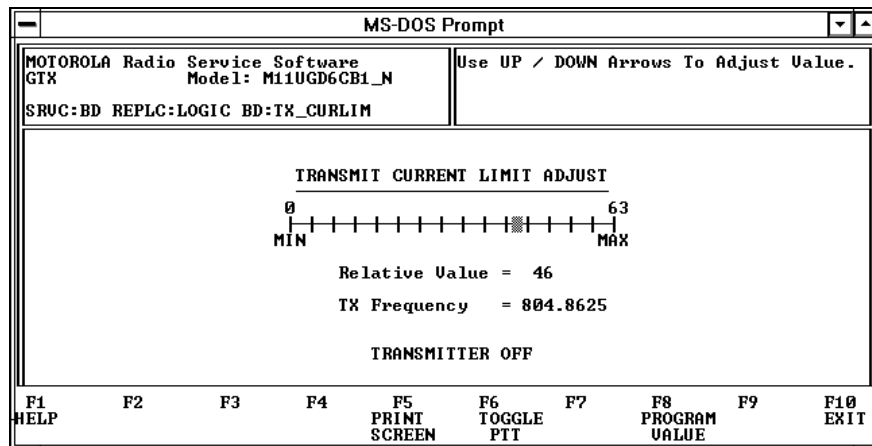

Figure 11.10 –Transmit Current Limit Adjust
1. Press F10, "Exit". The transmitter current limit adjust screen is shown in Figure 11.10.